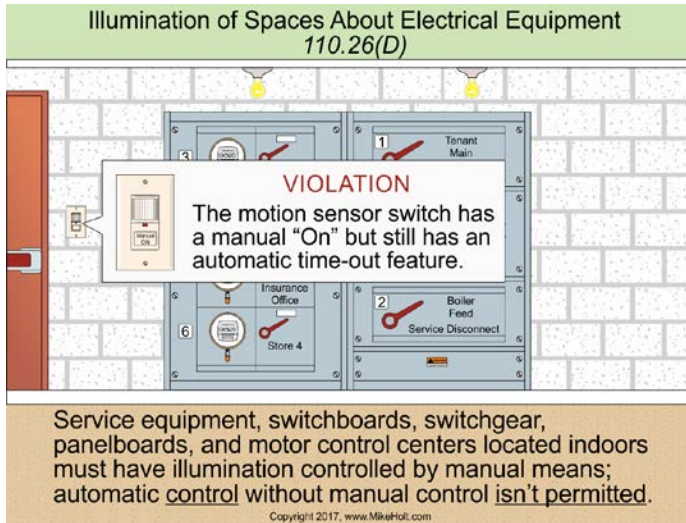

Figure 110-43
(D) Illumination. Service equipment, switchboards, switchgear, and panelboards, as well as motor control centers located indoors must have illumination located indoors controlled by manual means; automatic control without manual control isn't permitted. Figure 110-43